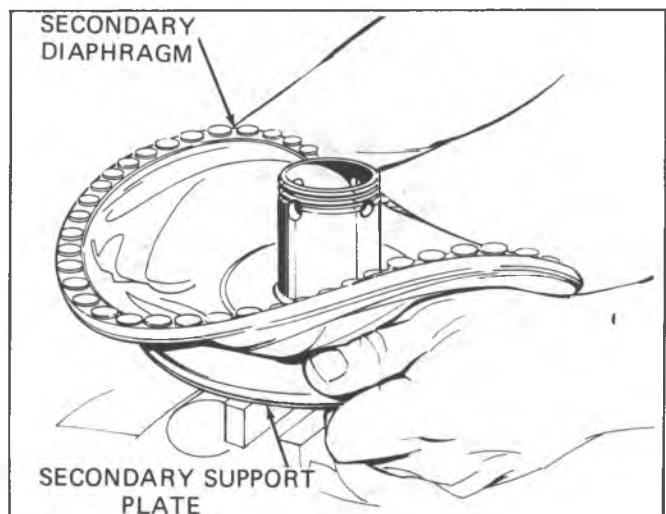

Fig. 5-6A--Locking or Unlocking Secondary Support Plate and Secondary Power Piston
plate from the secondary power piston (fig. 5-6A).
25. Grip the edges of the secondary support plate, press down, and rotate counterclockwise until the tabs on the secondary power piston contact the stops on the support plate. Fold the secondary diaphragm back into position on the secondary support plate. Leave the secondary power piston assembly on Tool J-23101 in the vise (fig. 5-6A).